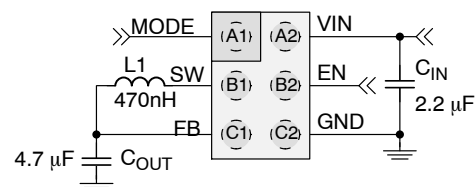

Figure 1. Typical Application
**Table 6. ELECTRICAL CHARACTERISTICS** (Note 2) Minimum and Maximum Values are at VIN = VEN = 2.3 V to 5.5 V, VMODE = 0 V (AUTO Mode), TA = −40°C to +85°C, circuit of Figure 1, unless otherwise noted. Typical values are at TA = 25°C, VIN = VEN = 3.6 V.